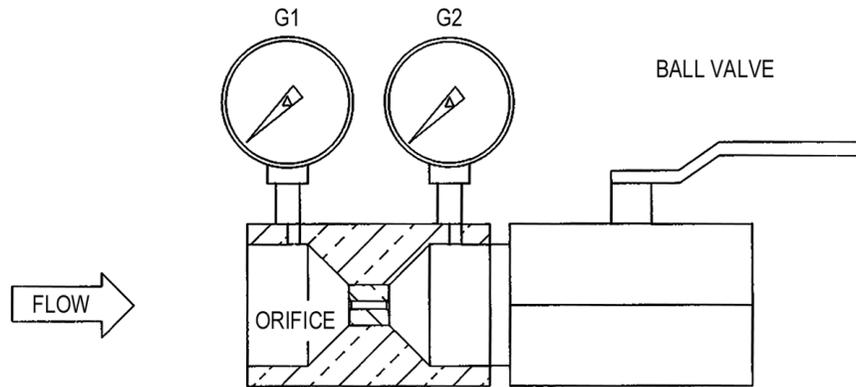

Figure 1. Flow Test Fixture
- a. Consult Table 1, Flow Specifications, to determine the correct flow and pressure requirements for your laser system. All of the flow parameters can be measured using the test fixture shown in Figure 1.
Using the fixture of Figure 1:
Figure 1 illustrates how an equivalent orifice can be used to mimic the effect of the laser system. Using this fixture: